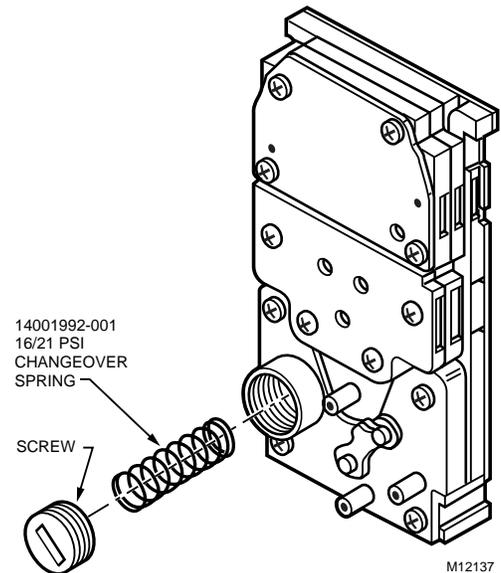

Fig. 5. Changeover Spring Replacement and Adjustment.
- 1 Using a screwdriver, carefully remove the screw and changeover adjustment spring (Fig. 5).
- 5 BLP gage should read 16 psi (90 kPa) (DA). If it does not, turn changeover adjustment screw clockwise until it does.
- 6 Turn the changeover adjustment screw counterclockwise until the pressure begins to decrease (DA). This indicates changeover. Allow the gage to go to 0 psi (0 kPa) (DA).
- 7 Turn the changeover adjustment screw counterclockwise until the pressure increases to full main line pressure (DA). Turn the changeover adjustment screw an additional 1/8 to 1/4 turn clockwise. Changeover is calibrated.